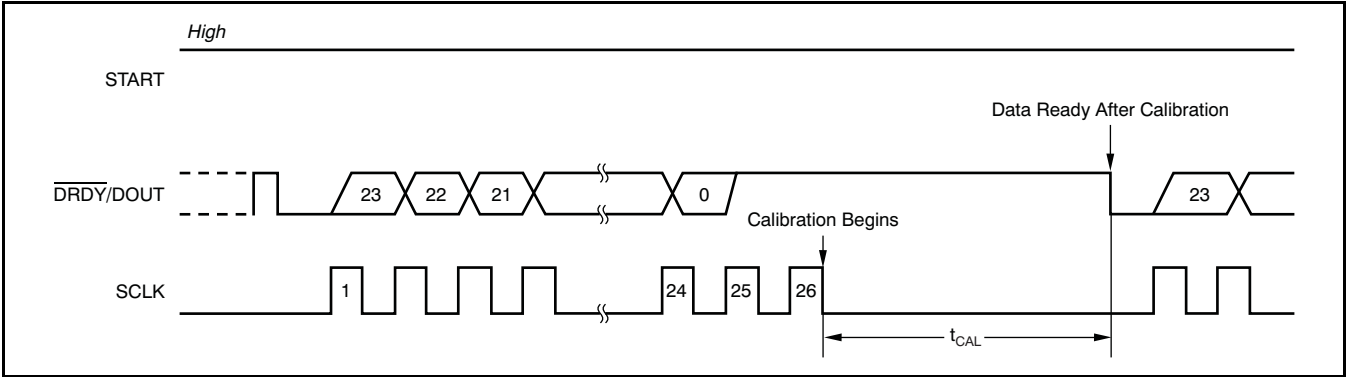

Figure 30. Self-Calibration Timing
Self-calibration can be initiated at any time by applying two additional SCLKs after retrieving 24 bits of data; however, the START pin must be kept high prior to data conversion and remain high until the calibration completes. Figure 30 and Table 6 illustrate the timing pattern. The 25th SCLK will send $\overline{\text{DRDY}}/\text{DOUT}$ high. The falling edge of the 26th SCLK will begin the calibration cycle. Additional SCLK pulses may be sent after the 26th SCLK; however, activity on SCLK should be minimized during calibration for best results.
Table 6. Self-Calibration Time for Figure 30
- Changed Figure 30 16